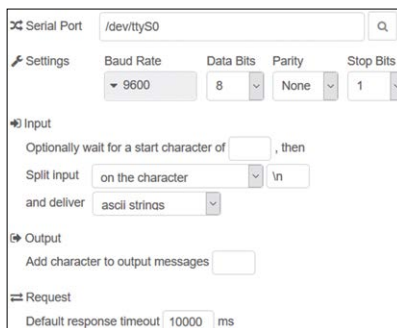

Figure 11.33 Configure node serial out
- Create a **serial out** node and configure it as shown in Figure 11.33, click **Update** and then **Done**